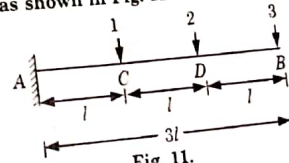

Fig. 11.
- a. Develop the flexibility matrix for the cantilever with co-ordinate as shown in Fig. 11. Take uniform flexural rigidity.